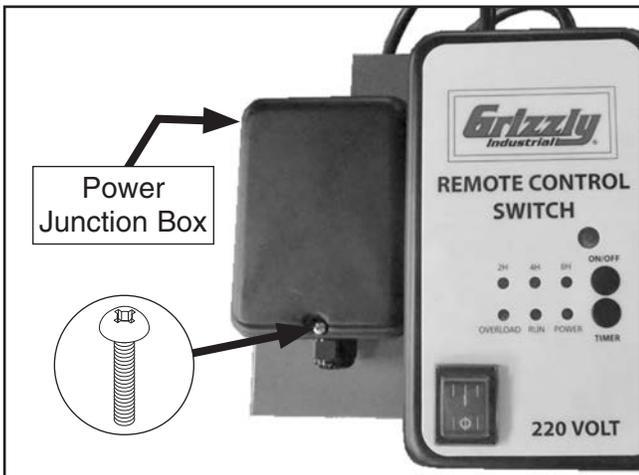

Figure 31. Location of securing screw on power junction box.
42. Remove securing Phillips head screw and open power junction box on Model G0441 switch bracket (see **Figure 31**).